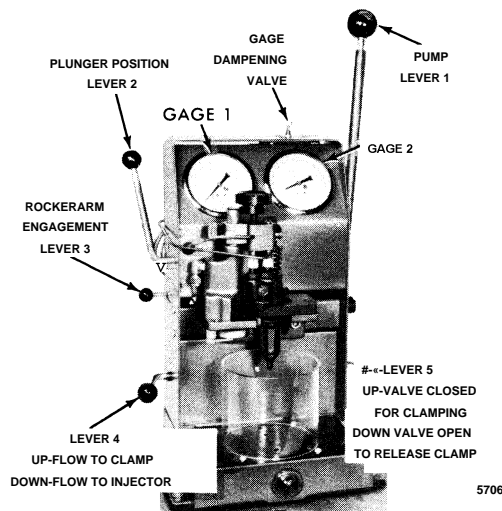

Fig. 3 - Injector in Position for Testing with J 23010-A
NOTICE: Injector rack guard screens (Fig. 3) are used in place of cylinder block drain screens on all current 12V-149 and 16V-149 engines. Guard screens protect the injector control tube linkage passing through the front and rear block halves by preventing debris from wedging between the block and the injector control tube lever, jamming the racks. If racks are jammed at full-fuel, an overspeed condition and serious engine damage may result. *Guard screens must be replaced if removed.*
● Fig. 3 – Injector Rack Guard Screens
1. Refer to Fig. 3 and position the injector tester levers as follows:
4. Turn the gage damping valve knob (Fig. 3) clockwise to the *closed* position, then open the valve slightly to control the rate of return of the gage hand. This valve is deleted on the current testers.